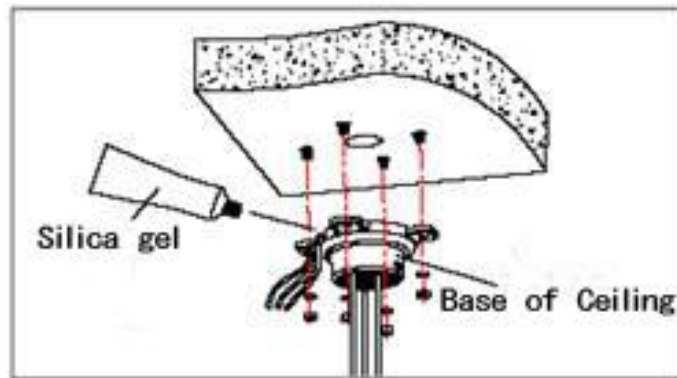

Fig 2.11
b. As shown in fig 2.11, at first unscrew the M4 screw at the side of the base of ceiling and split the base of ceiling and boom. Then make the three groups of cables of power, video/control and alarming into the side recessing seal groove of the ceiling connector bottom and through the core hole of the base of ceiling mounted. Fix the base of hang ceiling on the ceiling board.